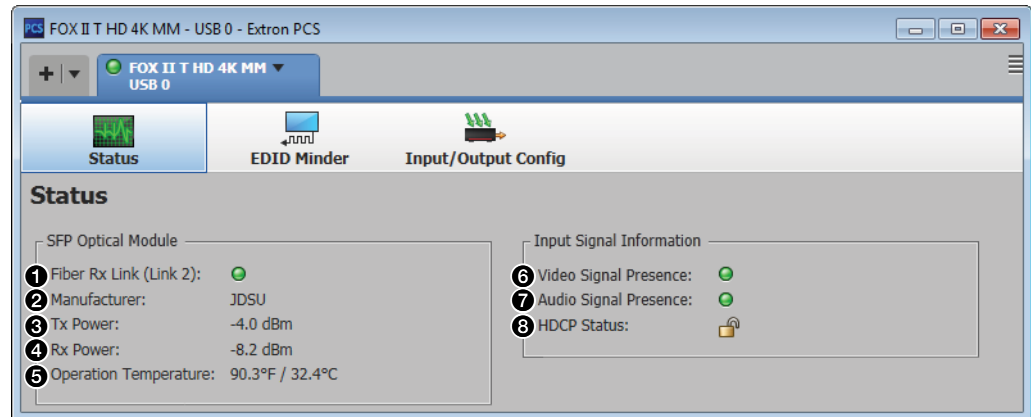

Figure 14. Status Window
3. Click **Connect** (②). The Product Configuration Software opens to the **Status** window (see figure 14 on the next page).
Once you have connected to a device, the **Status** window (see figure 14) is the default start-up window for the Product Configuration Software. The window provides indications of the connection status.